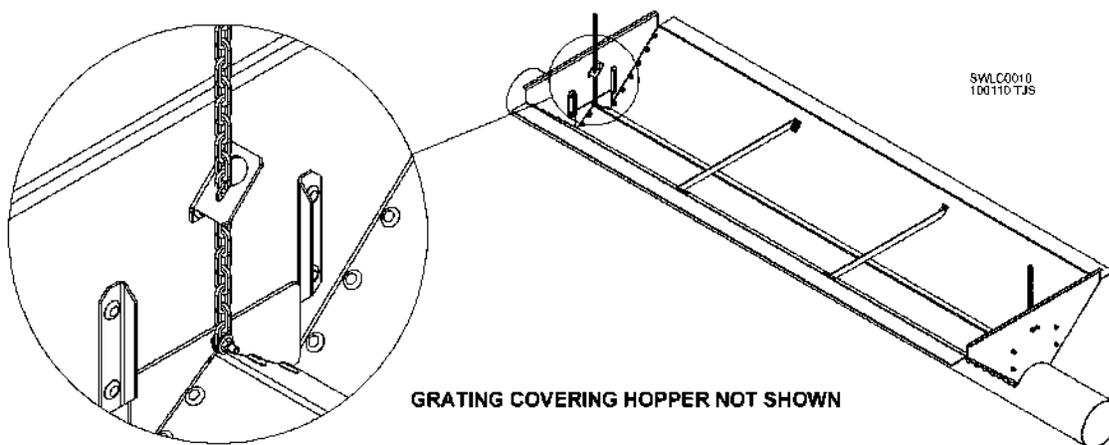

Fig. 75 – Using chain to adjust flow from hopper
4. Allow grain to flow into inlet hopper. Open flow control by adjusting chains on hopper a small amount at a time. See Fig. 75. Ensure grain has enough time to travel throughout system before making changes. Adjust grain flow so tube is consistently about 3/4 full of grain. Also, make sure electric drive motor(s) amperage does not exceed rated amperage draw as shown on motor nameplate(s). Be careful not to overload conveyor.